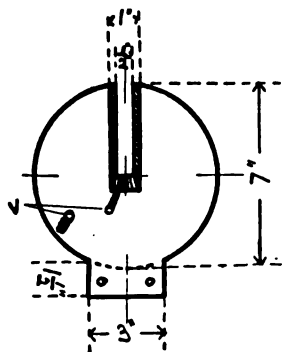

Fig. 2
*U*, the support for the primary, shown in Fig. 2, is of  $\frac{1}{8}$  in. teak wood, with strip cut out on an angle, leaving opening 1 in. wide on back and  $\frac{1}{2}$  in. wide on face. Round hard rubber plugs, having a depth of  $\frac{3}{4}$  in. are inlaid under slider rod sup-